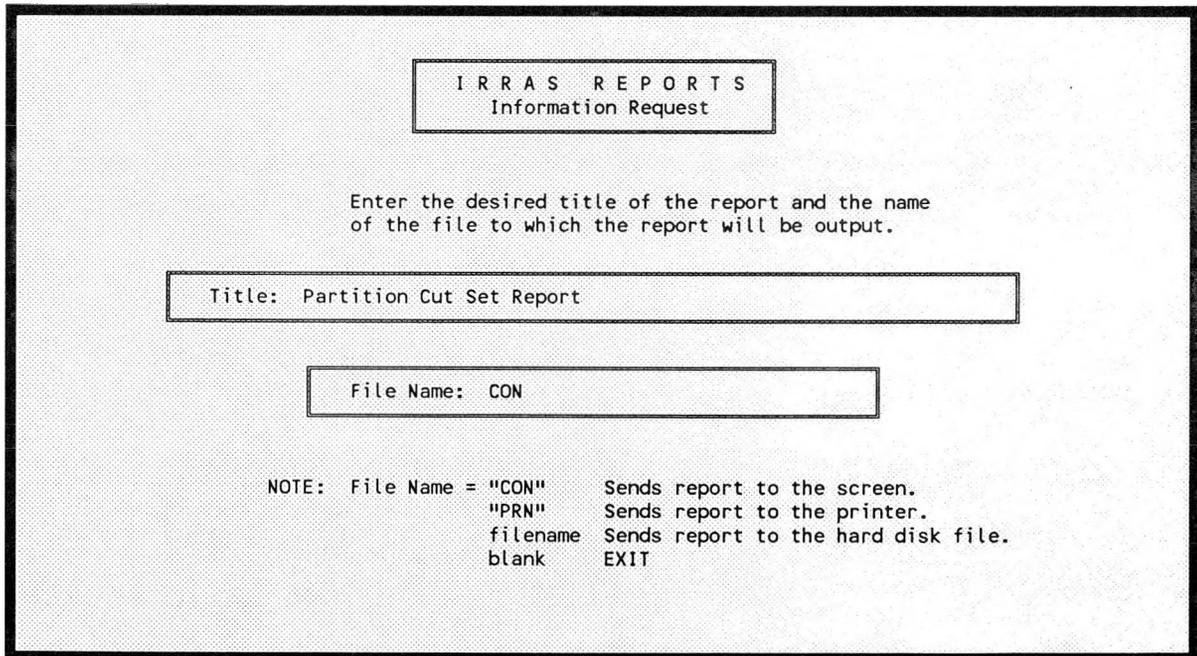

Figure 213. Partition report type selection.
7.4.2.3 Report. The Report option allows you to generate a report of the data that is displayed on the screen. The report may be displayed on the console, sent to an attached printer, or saved in a disk file for later processing (Figure 213).
To invoke this option, type <R> in the option field, and press <Enter>. Upon pressing <Enter>, the Information Request screen is displayed (Figure 213). This screen shows a default title and file name. You may change these defaults to meet your needs.